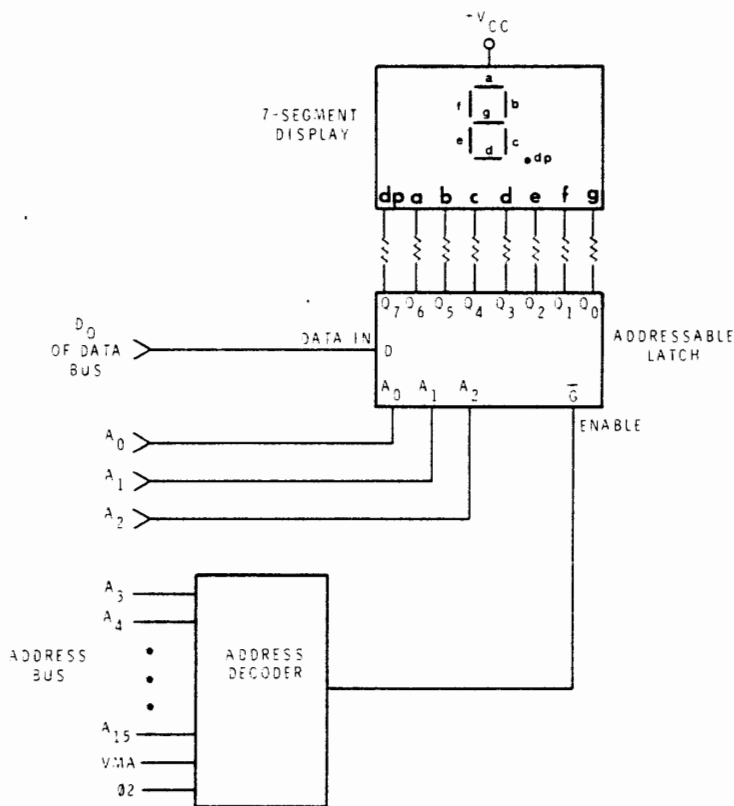

Figure 7-30.
How can this latch be used by the microprocessor to drive a display? Figure 7-30 shows a representative circuit. The three address lines on the addressable latch are connected to their corresponding lines on the address bus. The remaining lines of the address bus are connected to the address decoder. Assume that the address decoder is arranged so that the addressable latch is enabled for addresses C160₁₆ through C167₁₆. That is, the addressable latch is enabled for eight different addresses. Address C160₁₆ selects latch 0 of the addressable latch; C161₁₆ selects latch 1; and so forth.
37. Refer to Figure 7-30. What determines which of the latches the input data bit goes into?